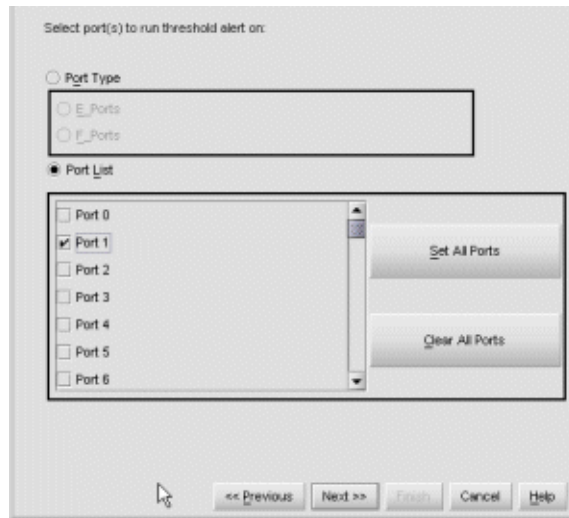

Figure 39: New Threshold Alerts dialog box—third screen
9. Click **Next**. A new screen displays for selecting ports for the alerts, as shown in Figure 39.